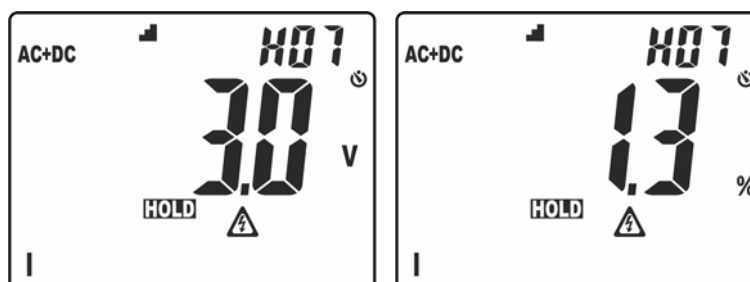

Fig. 4: Display of ordering of amplitude of harmonic analysis
- Long pressing of the key (at least 2s) in order to activate the **H₂O** (Higher Harmonic Ordering) ordering function of the amplitude of harmonics. In these conditions, function "HOLD" is automatically activated, symbol \blacksquare is shown on the display, the bargraph is disabled and the instrument shows the value of amplitude of all harmonics between the 2nd and the 25th, in **decreasing order** from the harmonic with the highest value, as shown in Fig. 4.
In the example in Fig. 4, the harmonic with the highest value corresponds to the 7th. Press key \blacktriangle to observe the amplitude of the remaining harmonics and press key **H/H%/H \blacksquare** again to switch between display in absolute and percentage values. Turn the rotary switch to exit the function.